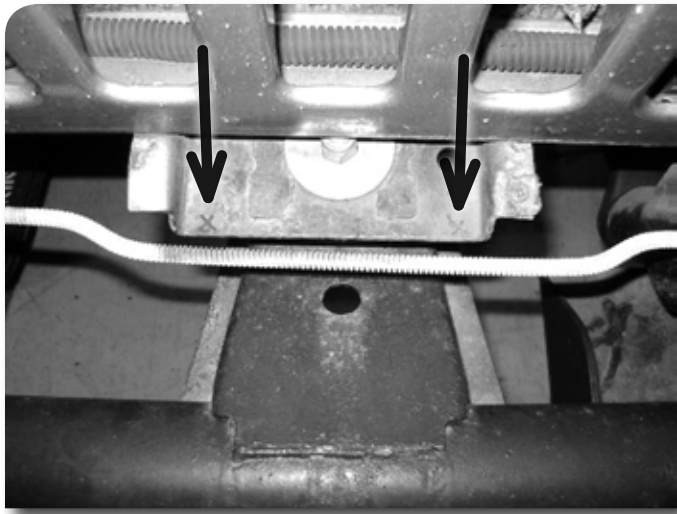

Figure 14
20. Locate the center grill support bracket at the bottom/center of the grill. Mark and drill a 1/4" hole at each (2) corner of the bracket. **Figure 14** These will be the new mounting points for the front brake hardline.